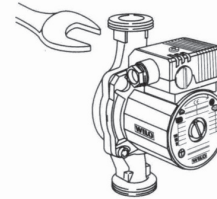

Fig. 3
- When connecting the pump to the conduit of pipes, the pump can be secured against twisting using a spanner on the key surfaces which have been created for this purpose (Fig. 3)